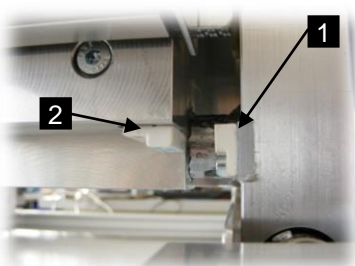

Abb. 9b: Y-Carriage
- The reference switch (Fig. 9b / 1) responds to the magnetic field of the incoming homing magnet (Fig. 9b / 2). If the magnet is close enough the reed sensor of the switch turns on.